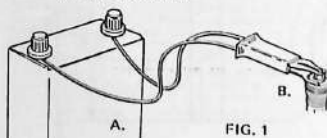

FIG. 1
4. Procure a 1½ volt Cox dry cell battery, or equivalent, and connect it with 2 flexible insulated wires to the glow plug clip as shown in the diagram A and B — Fig. 1. Do not use a battery with higher voltage. If you do, the plug will burn out. Be sure the battery is a good one. Your hobby dealer sells batteries and glow plug clips. The Cox glow plug clip (Cat. No. 755-6) with plastic grip and wires attached is recommended and requires no soldering.